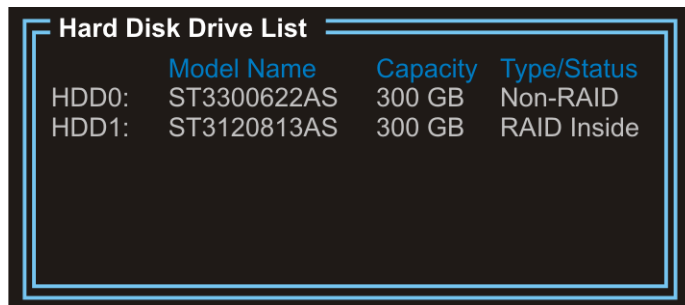

Figure D-16: Reverted HDD
Step 3: The reverted HDD is now listed as non-RAID (Figure D-16).